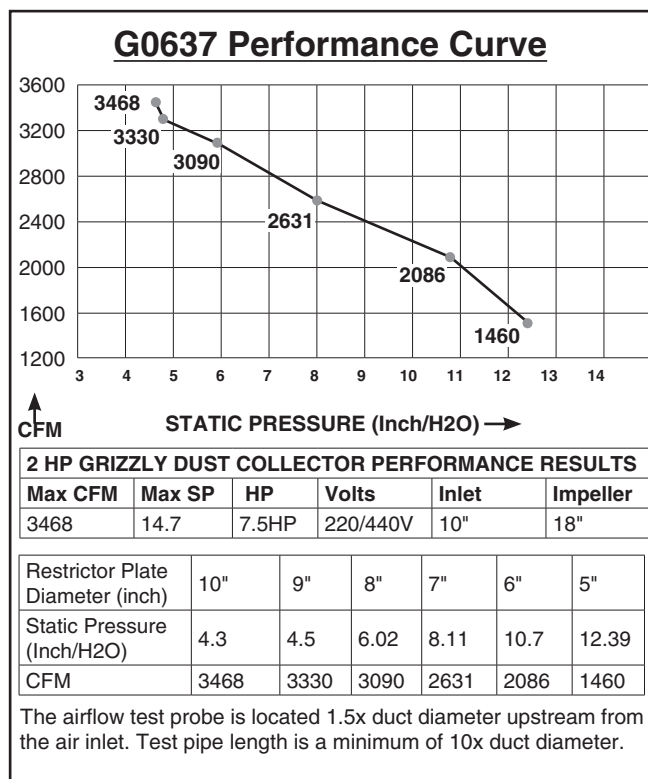

Figure 74. G0637 performance curve chart and data.
5. Compare the total static pressure loss for that line to the closest CFM given in **Figure 74** or **75** for your dust collector on **Page 42**.